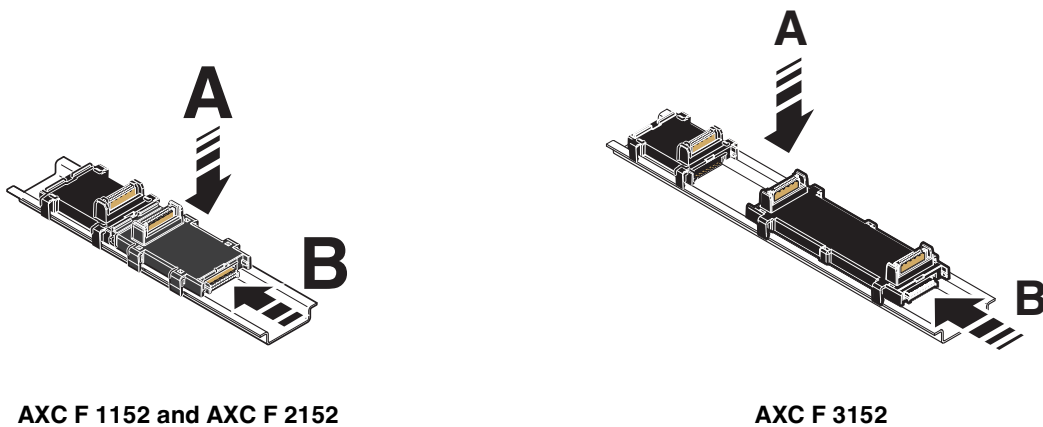

Figure 4-6 Mounting the bus base modules
- First install the bus base module for the controller and then all bus base modules necessary for the Axioline F station on the DIN rail (A in Figure 4-6).
- Push each subsequent bus base module into the connection of the previous bus base module (B in Figure 4-6).